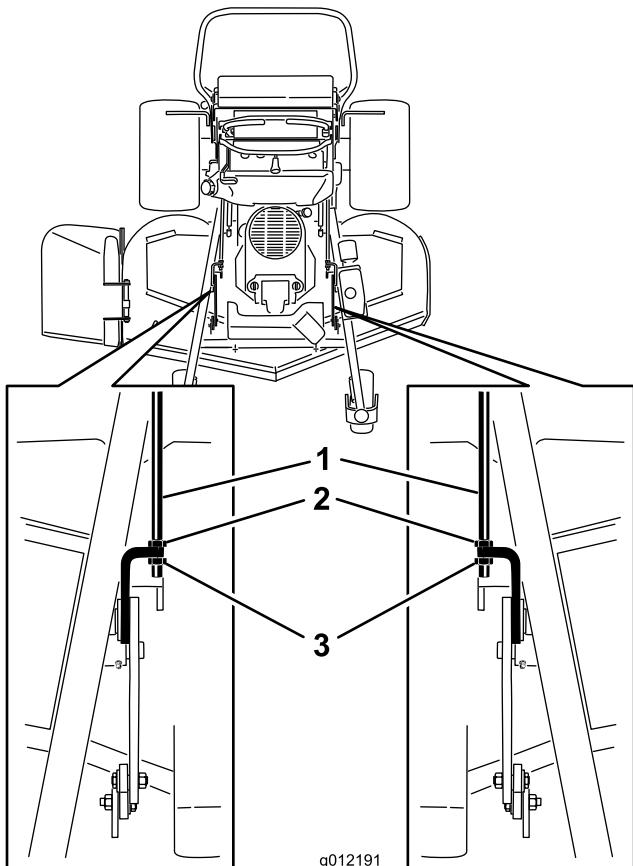

Figure 87
3. Loosen both the front and rear nuts on the adjustment rods (Figure 87).
Note: The weight of the mower deck must be resting on all 3 of the 2x4 pieces (Figure 87).
6. If the dimensions are not correct, adjust the front and rear nuts on either side to get the correct front-to-rear pitch (Figure 87).